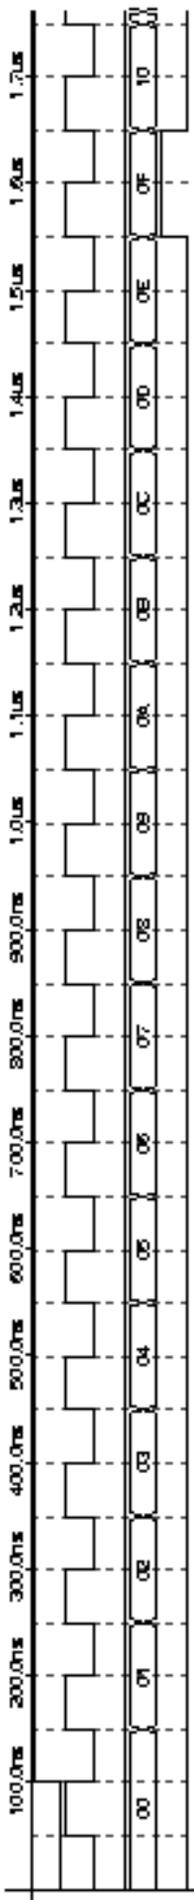

FIGURE 2. FUNCTIONAL SIMULATION
- Select **Save & Simulate** (File > Project menu). The waveform file should be the name of the project with the .scf file extension, which will be added automatically. You should see a functional simulation which shows the operation of the 8-bit counter circuit. Observe when the rco1 and rco2 signals are high. Compare your simulation waveforms to those shown in Figure 2.